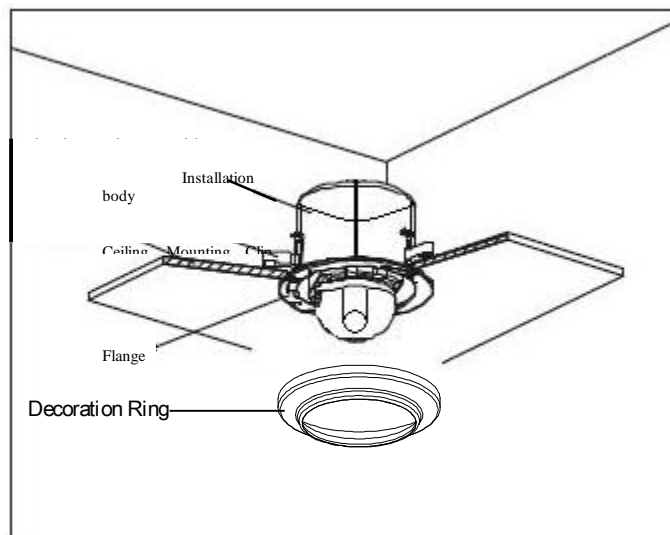

Figure 20
7.7) Now turn the three mounting clip bolts so that they press against the ceiling. The ceiling is now clamped between the mounting clips and the flange, leaving the unit body secured in the ceiling void. (Figure 20)